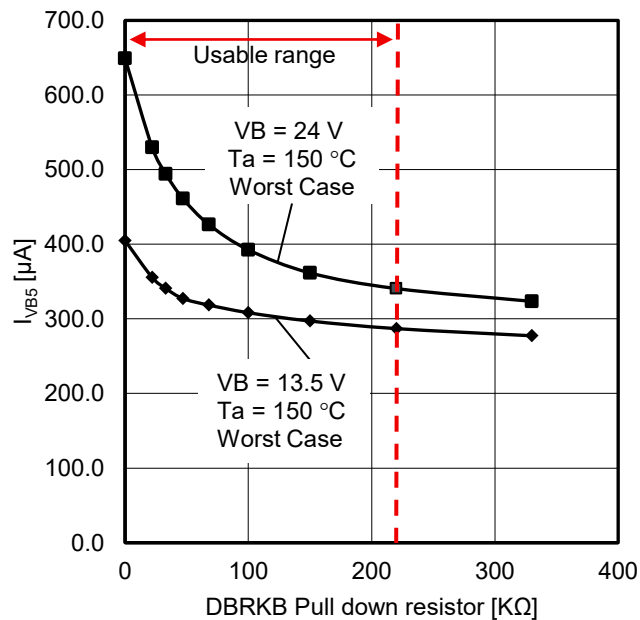

Figure 18. EN = Low, DBRKB VB Current Characteristics When Inserting Pull Down Resistor (Reference Value)
(Note 2) Illegal (Fail) refers to any fault state other than a single open/short fault such as ① to ⑤ in Figure 18.